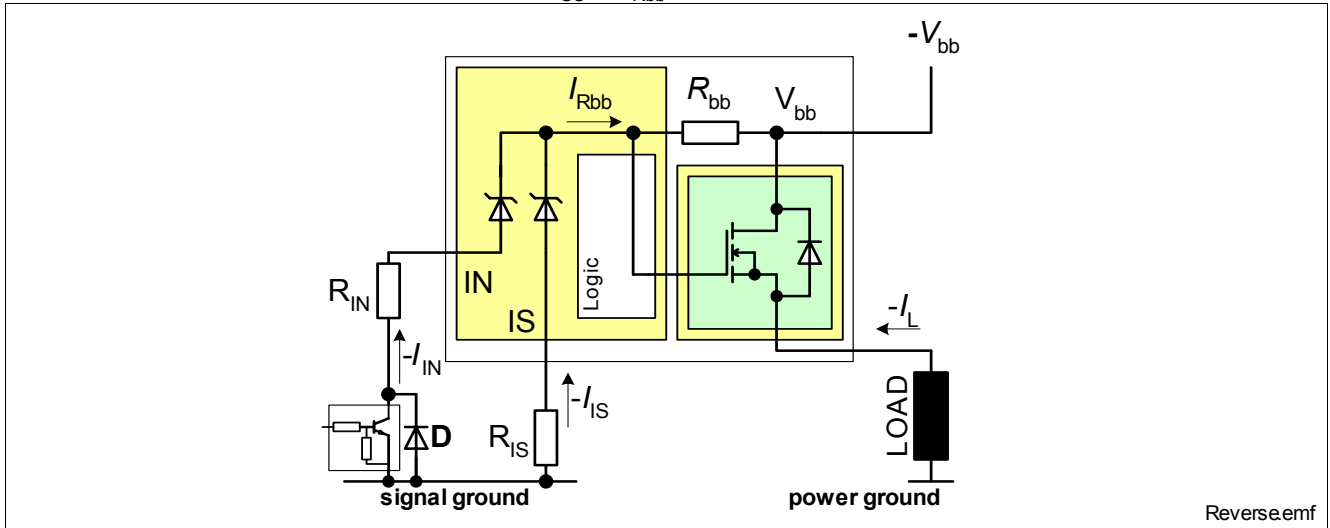

Figure 14 Reverse battery protection
- 4) Slew rate limitation can be achieved by means of using a series resistor for the small signal driver or in series in the input path. A series resistor R_{IN} in the input path is also required for reverse operation at $V_{bb} \leq -16\text{V}$. See also Figure 14.
The device can not block a current flow in reverse polarity condition. In order to minimize power dissipation, the device offers Reversave™ functionality. In reverse polarity condition the channel will be switched on provided a sufficient gate to source voltage is generated $V_{GS} \approx V_{Rbb}$. Please refer to Figure 14 for details.